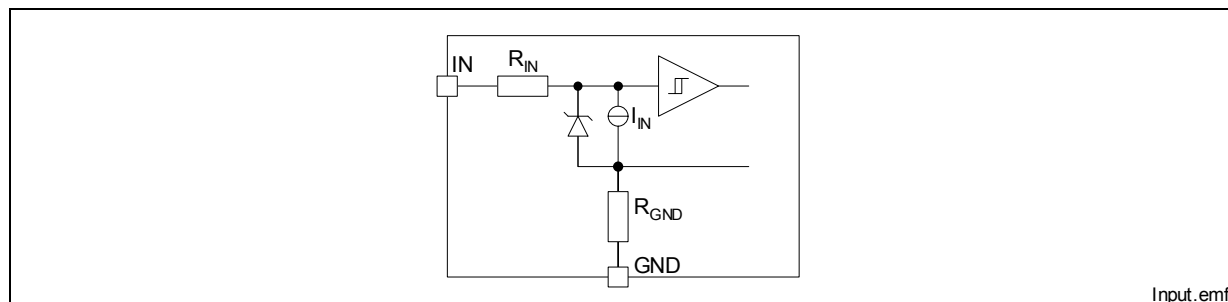

Figure 5 Input Circuit (IN1 and IN2)
**Figure 5** shows the input circuit of the BTS 5230GS. There is an integrated input resistor that makes external components obsolete. The current source to ground ensures that the device switches off in case of open input pin. The zener diode protects the input circuit against ESD pulses.